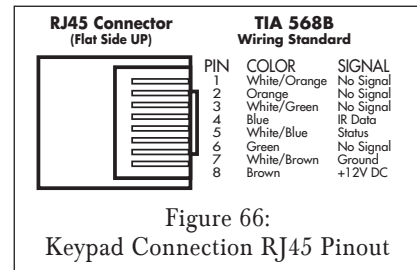

Figure 66:
2. Terminate each CAT5 cable with RJ45 connectors on one end. Follow the TIA 568B wiring standard (see *Figure 66*).